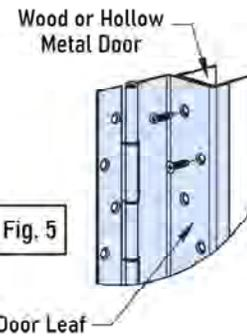

Fig. 5
#### Non Adjustable Hinge (Fig 5)
B. Attaching hinge to frame (Fig 5):